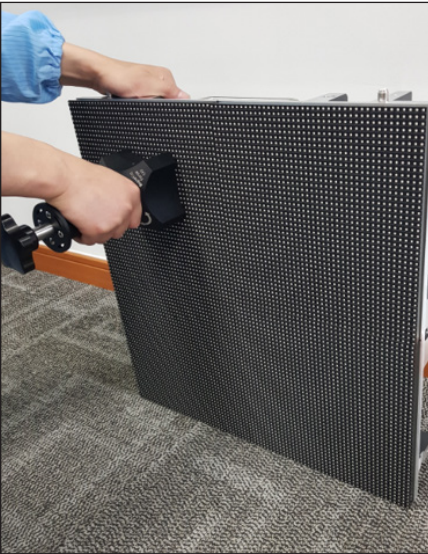

Figure 11: Center Magnetic Tool on Module
- 3. Center the tool on the face of the module to be removed and turn the knob on the tool counterclockwise to engage the magnets. Refer to **Figure 11**.